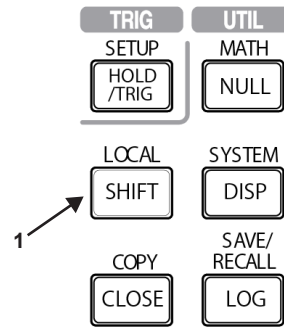

Figure 3.5 TRIG & UTILITY setting part
- 2 Press [DISP] in the red frame of Figure 3.5 when 1 is displayed. The DISPLAY menu opens as shown below. (The TRIG&UTILITY menu is shown in light gray.)
- 1 Press [SHIFT] in Figure 3.5. The blue indicator **SHIFT** lights in the upper right of the screen.